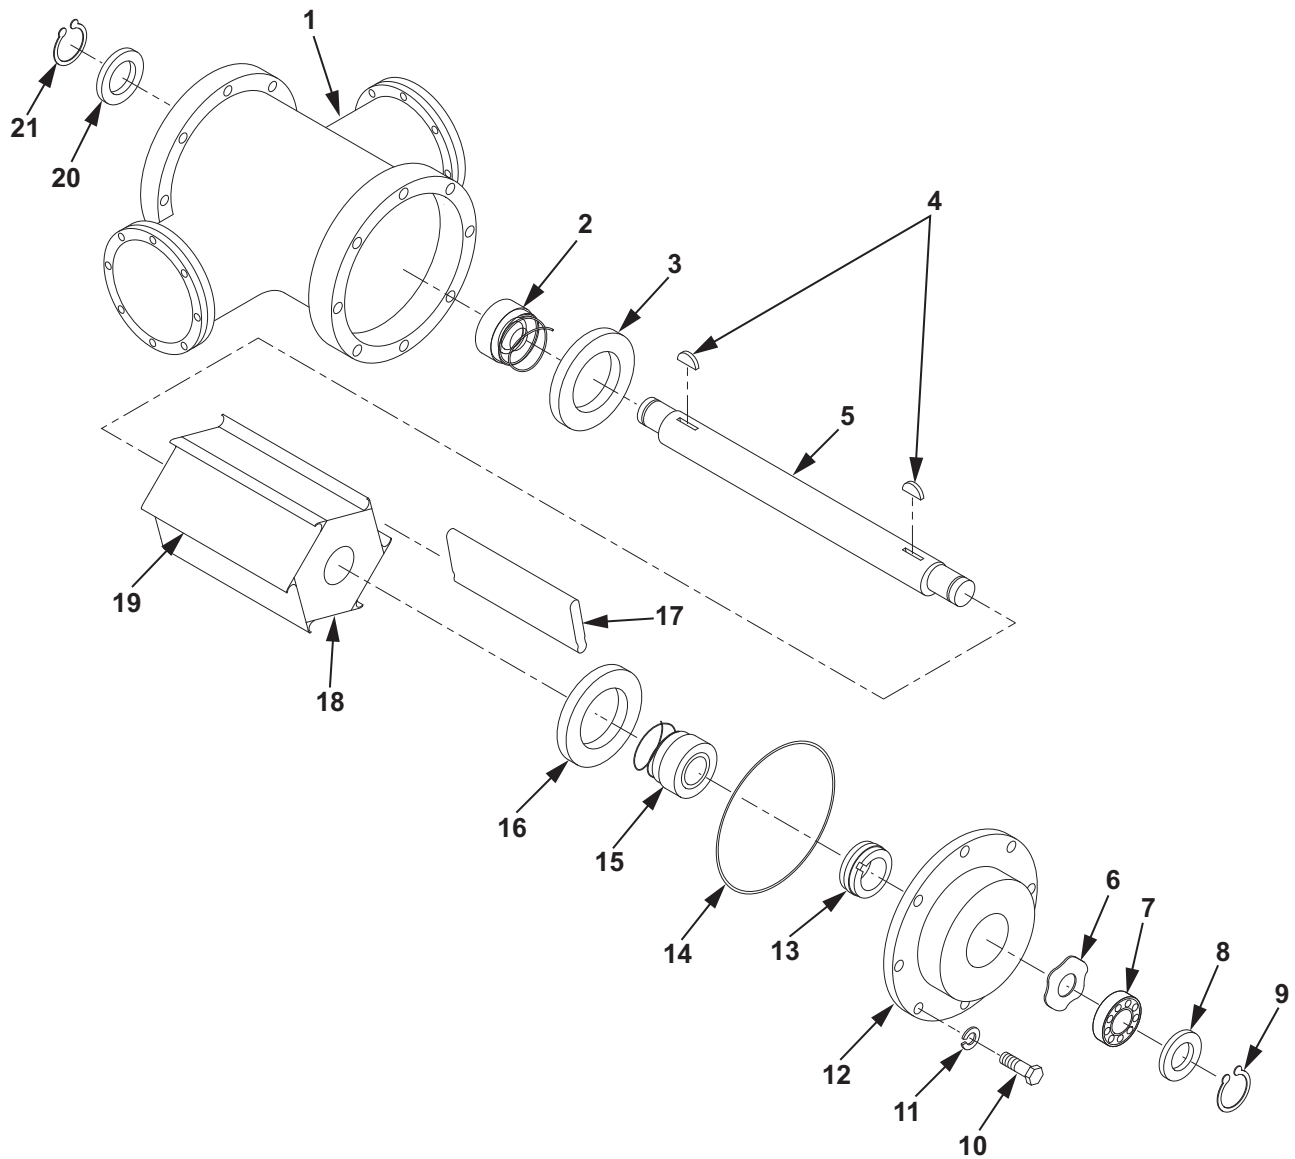

Figure 2. Fuel Additive Injection Pump Bearing Housing Disassembly.
23. While supporting end plate (Figure 2, Item 12) evenly with both hands, carefully remove end plate (Figure 2, Item 12) from the fuel additive injection pump fluid motor housing (Figure 2, Item 1).
24. Remove O-ring (Figure 2, Item 14) from end plate (Figure 2, Item 12).
25. Discard O-ring (Figure 2, Item 14).
26. Remove bearing (Figure 2, Item 7) and spring washer (Figure 2, Item 6) from end plate (Figure 2, Item 12).
27. Remove ceramic seal (Figure 2, Item 13) from end plate (Figure 2, Item 12).
28. Perform the following inspection steps prior to removal of six teflon vanes (Figure 2, Item 17):
- a. Inspect the position of six teflon vanes (Figure 2, Item 17) and how they lay against fluid additive injection pump fluid motor housing (Figure 2, Item 1). If teflon vanes (Figure 2, Item 17) do not lay flat against fluid additive injection pump fluid motor housing (Figure 2, Item 1), replace six teflon vanes (Figure 2, Item 17).
- b. Inspect each teflon vane (Figure 2, Item 17) for freedom of movement as they fall against the fuel additive injection pump fluid motor housing (Figure 2, Item 1). If teflon vanes (Figure 2, Item 17) are binding, replace six teflon vanes (Figure 2, Item 17).
- c. Inspect each teflon vane (Figure 2, Item 17) for excessive wear in vane socket (Figure 2, Item 18). If teflon vane (Figure 2, Item 17) can be easily pulled out of vane socket (Figure 2, Item 18), replace six teflon vanes (Figure 2, Item 17).
29. Remove six teflon vanes (Figure 2, Item 17) from vane sockets (Figure 2, Item 18).
30. Remove mechanical (carbon) seal (Figure 2, Item 15) from shaft (Figure 2, Item 5).
31. Remove wear ring (Figure 2, Item 16) from shaft (Figure 2, Item 5).